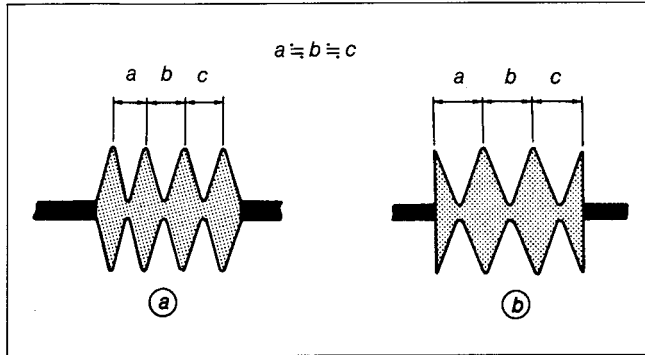

Fig. 8-62.
- 1) Playback the tracking alignment tape and select the REV mode. At this time, waveform peak pitches should be uniform. (Refer to Fig. 8-62(a).) When they are not uniform, make tracking fine adjustment (8-4-4) and No.2 guide adjustment (8-4-5).
- 2) Select the CUE mode. At this time, waveform peak pitches should be uniform. (Refer to Fig. 8-62(b).) When they are not uniform, make tracking fine adjustment (8-4-4).